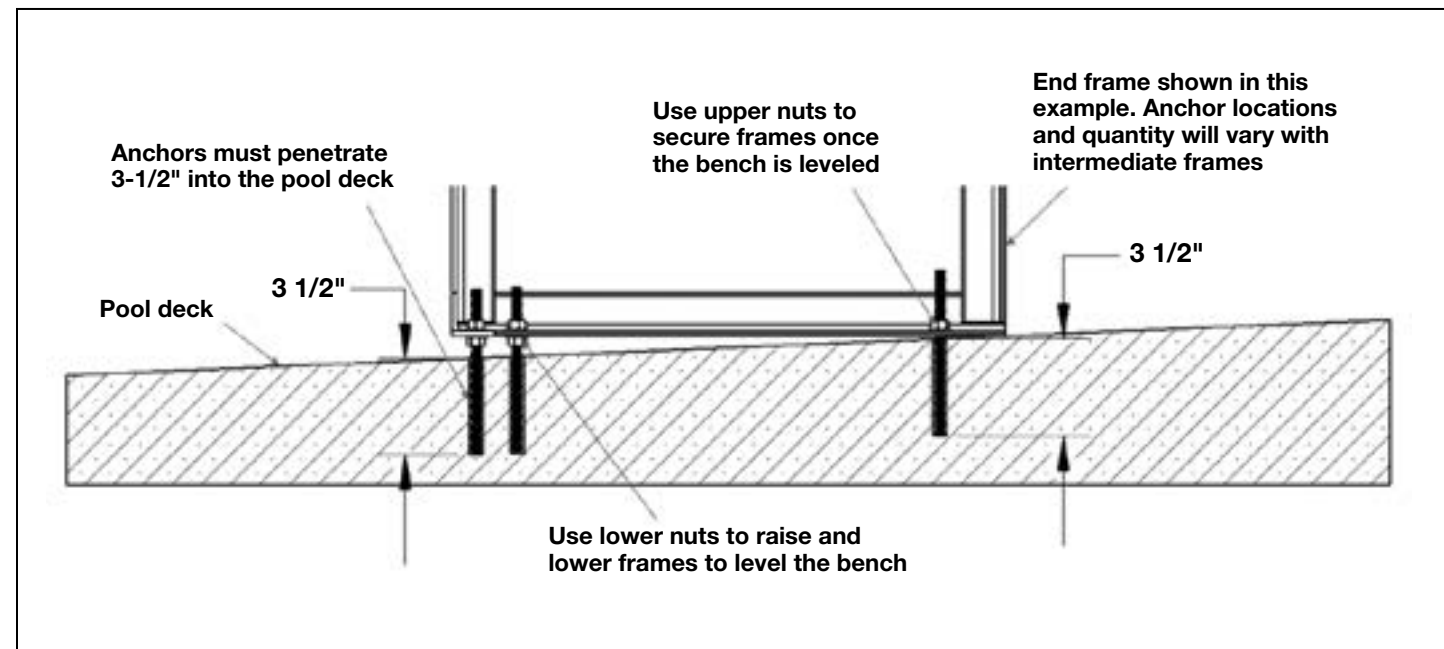

Figure 3.
13. Place the bench back onto the anchors, the frames will rest on the flat washers that were installed in Step 12. See Figure 3.
14. Level the bench by raising or lowering the nuts that were installed in Step 12. See Figure 3.
15. Place another flat washer on the anchor and slide it down until the washer rests on the bench frame. Then thread on another 3/8-16 nut and tighten the nuts. See Figure 3.